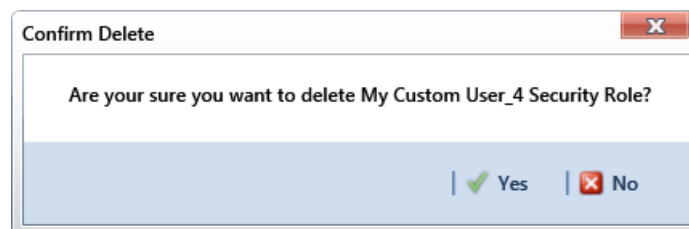

Figure 3-20. Confirm Delete
- 4 Click **Delete**. When the *Confirm Delete* message displays, click **Yes** to delete the custom security role or **No** to cancel the operation (Figure 3-20).